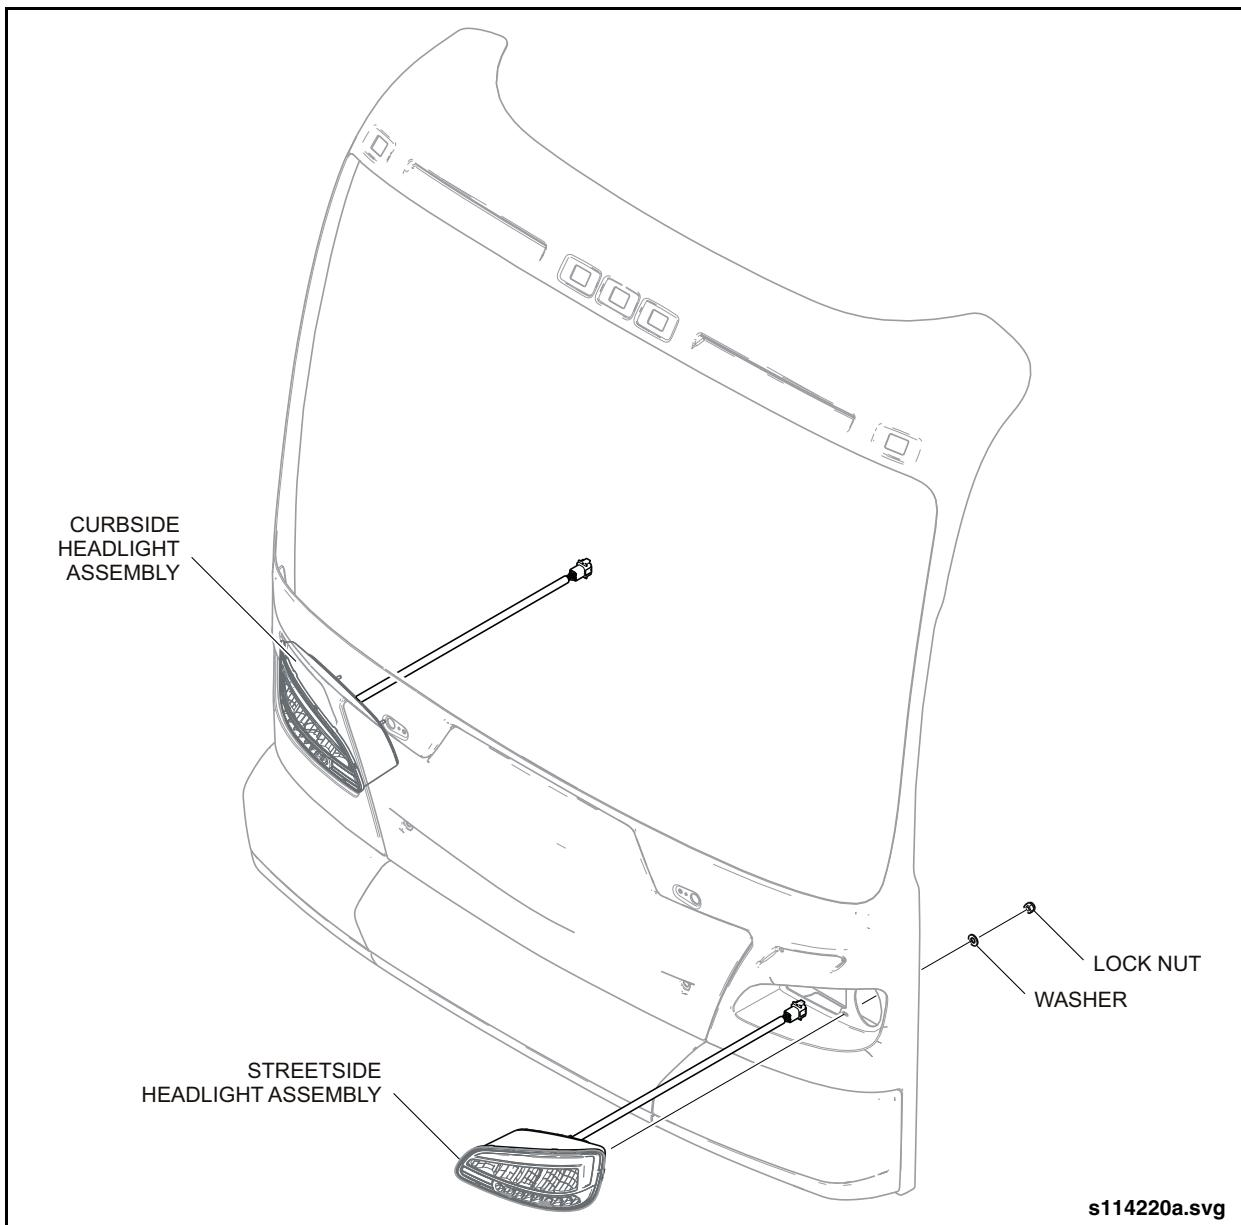

Fig. 9-50: Headlight Removal & Installation
2. Gain access to the headlight assemblies by opening the exterior wiper motor access door, interior LH lower dash panel access door, and interior RH lower dash panel access door. See “Fig. 9-50: Headlight Removal & Installation” on page 80.